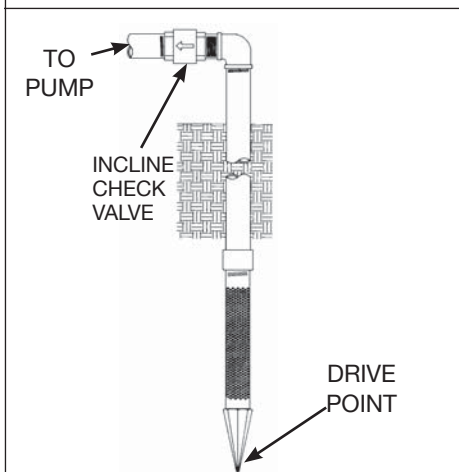

Figure 2 Illustration C
the water level. Shallow well pumps have only one pipe between the pump and the water supply (Figure 2).
1. Install a foot valve on the first section of pipe (Figure 2, Illustration A).
NOTE: A packer type foot valve can be installed in the well (Figure 2, Illustration B). This type of foot valve allows the well to be filled with water when priming and makes the inlet pipe much easier to test for leaks. Follow the manufacturer's instructions when installing the packer type foot valve.
As an alternative, an in-line check valve can be used with a driven well (Figure 2, Illustration C). The pipe between the check valve and the water level will always be under a vacuum.